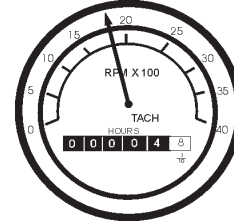

Figure 57. Engine Tachometer
15. The tachometer (Figure 57) will indicate the speed of the engine when the generator is operating. Under normal operating conditions this speed is approximately 1800 RPM's.